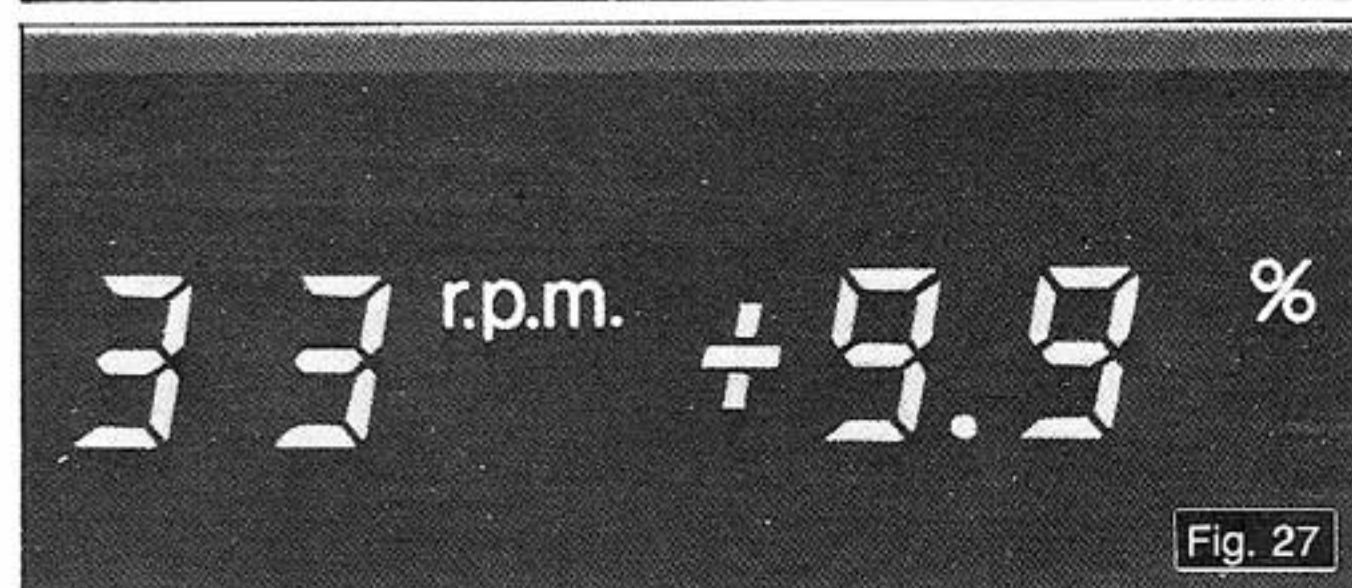

Fig. 27
- Another feature of the variable pitch control over a wide range of $\pm 9.9\%$ is that it makes singing along with a melody easy for a chorus or playing a phono disc for accompaniment only. (See Fig. 27).